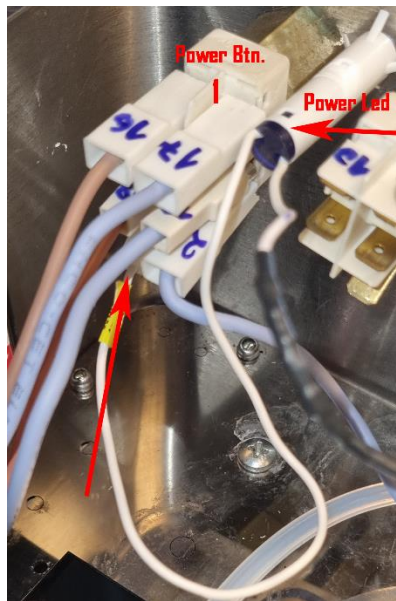

Fig. 2.6
- Unplug the remaining plug from B (95oC) (power led wire) and plug it into 1 position brown side (Power Btn. left-down)(fig. 2.6)